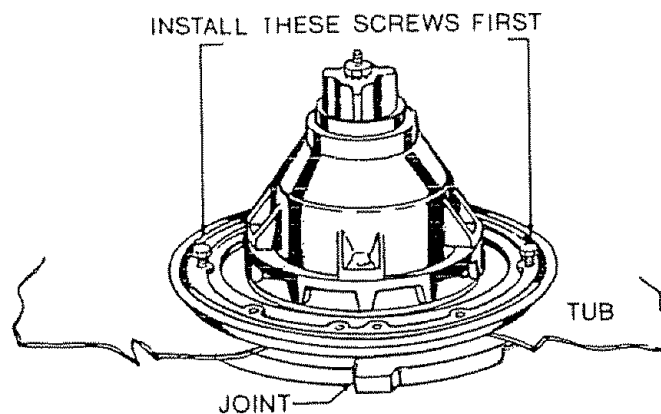

FIGURE 41
4. Install the pump mounting screws. **IMPORTANT:** Install one screw on each side of the ring **FIRST**. See Figure 41